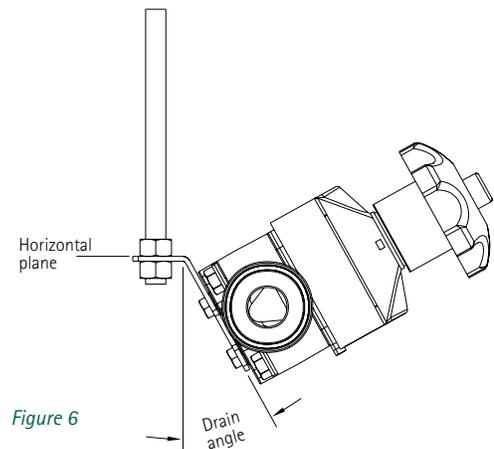

Figure 6
2. Mount the valve bracket assembly to the preferred structure. To ensure complete drainability, the bracket flange must be on the horizontal plane (see Figure 6).